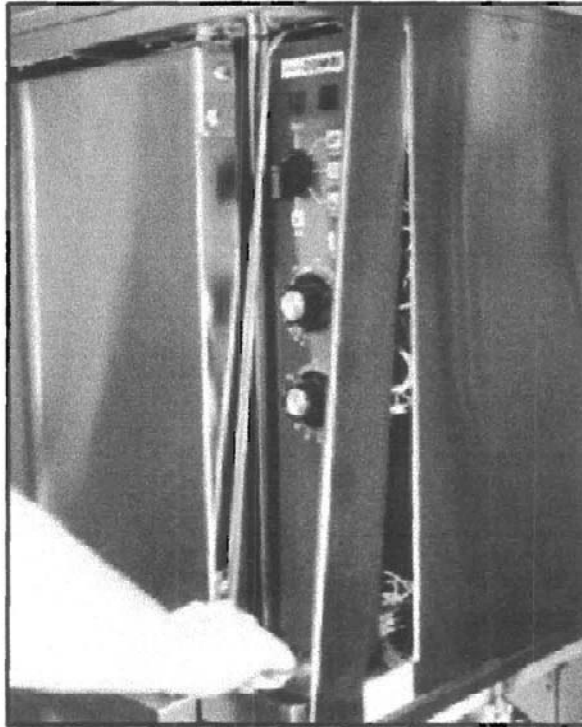
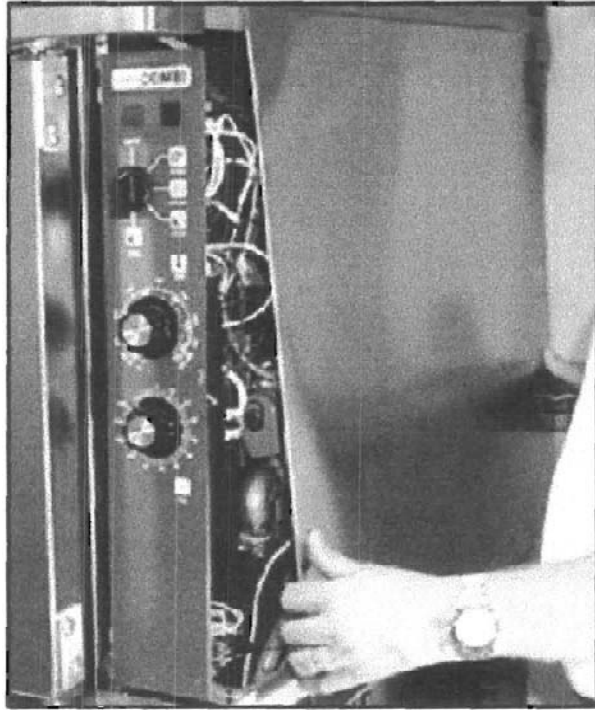

Figure 13 Control Panel Cover Removal
Figure 14 Right Side Rear Panel Removal
5. Remove the control panel cover by lifting and pulling the "D" handle toward you about 6". See Figure 13. Do this to both the upper oven and the lower oven.
6. Remove the right side rear panel by sliding it forward about an inch and then lifting the entire panel to free the retaining springs. See Figure 14. Do this to both the upper oven and the lower oven.
17. Replace oven electrical control panels on both upper and lower oven sections. See Figure 13 and Figure 14.